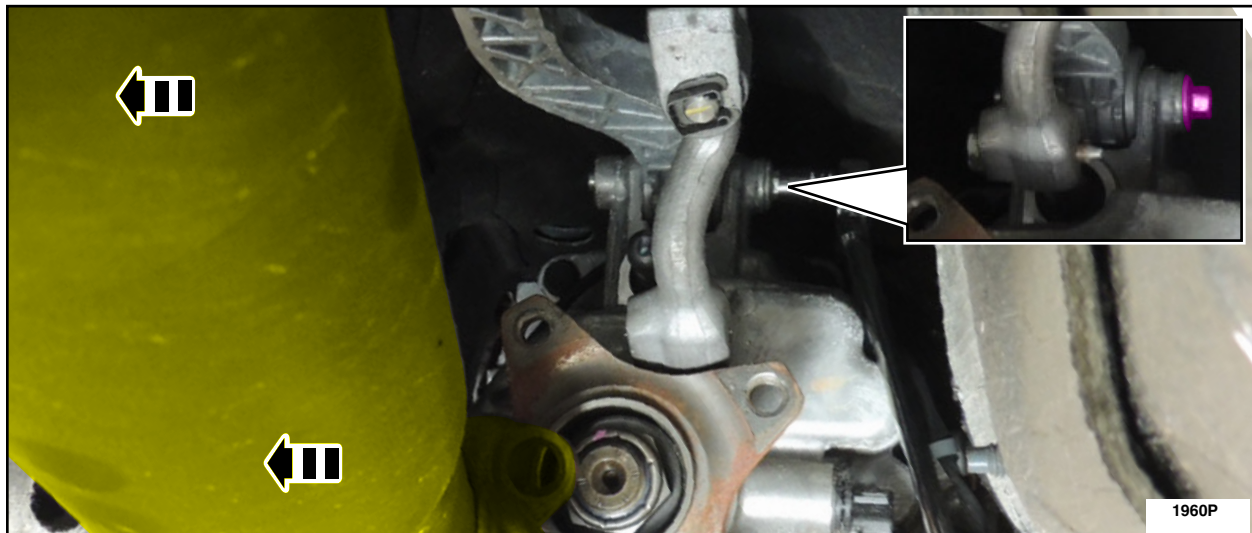

FIGURE 15
16. Position the driveshaft to the left hand (LH) side and remove the gearshift lever to transmission bolt. See Figure 15.
20. Install the gearshift lever to transmission bolt. See Figure 15.